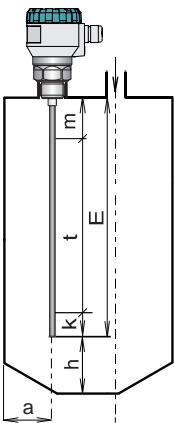

Fig. 1: Level meter installation with the rod electrode
- Otherwise, the level meter install as far as possible from the walls, to the middle between the wall and the vertical inlet, see Fig. 1., 2, 3, 4 and 5.
- It is an area in which continuous level measurement takes place. The maximum measuring range is determined by the length of the measuring electrode with the subtraction of dead zones at the beginning and at the end of the electrode, see Figs. 1, 2, 3, 4 and 5. This range is also the default setting of the level meter. The maximum measuring range can be reduced by the user by changing the minimum and maximum levels in case of obstacles near the end or in particular at the beginning of the measuring electrode.
- In connection with the measurement principle, electromagnetic waves reflected in the area immediately below the level meter and also at the end of the electrode cannot be evaluated (see Figs. 1, 2, 3, 4 and 5). These zones determine either the minimum possible distance between the level meter and the highest level ("m" parameter) or the minimum distance at the end of the electrode ("k" parameter). **The level meter must be installed in such a way that the level does not interfere with the dead zones at the maximum and minimum possible filling of the storage tank.**